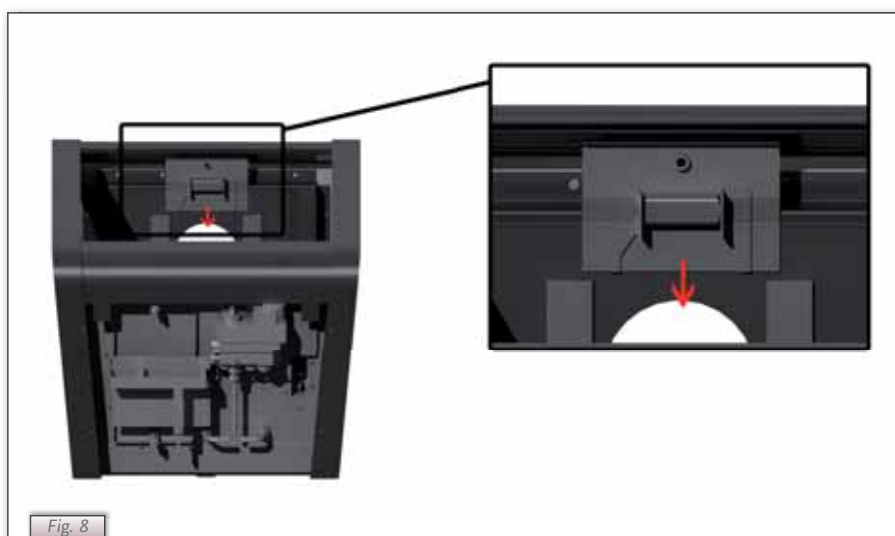

Fig. 8
- ▣▣▣▣ **Place the baffle (see Fig. 8).**